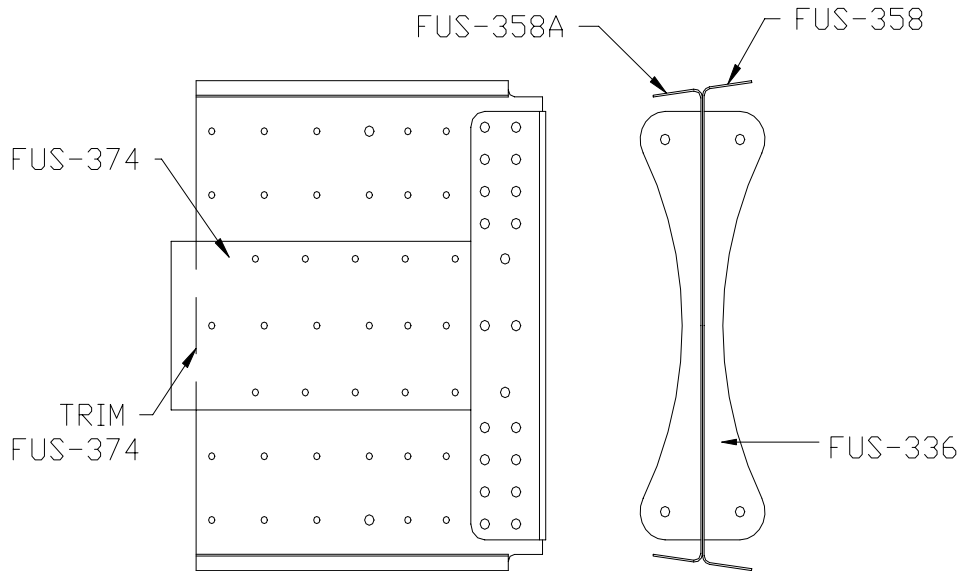

FIGURE 26
91) Center the FUS-374 packer on the narrow side of the FUS-358 assembly. Drill to #30. Figure 26